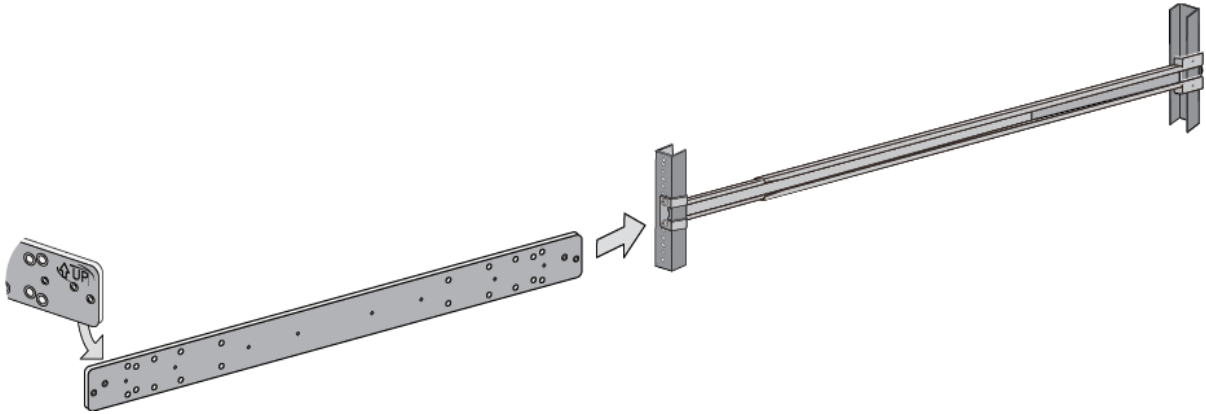

Figure 104. Inserting an Inner Rail into an Outer Rail
1. Slide one of the inner rails into an outer rail. Be sure that the UP arrow on the inner rail is pointing up. Refer to Figure 104 on page 177.